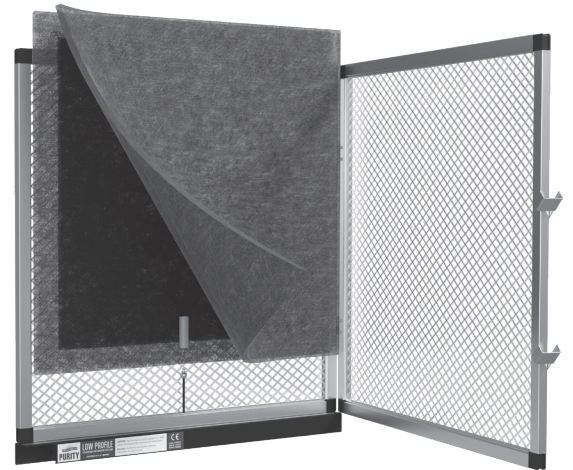

Fig. 2 Open PLP frame
5. Open the PLP (Fig. 2) and remove the old Collector Pad and discard it.